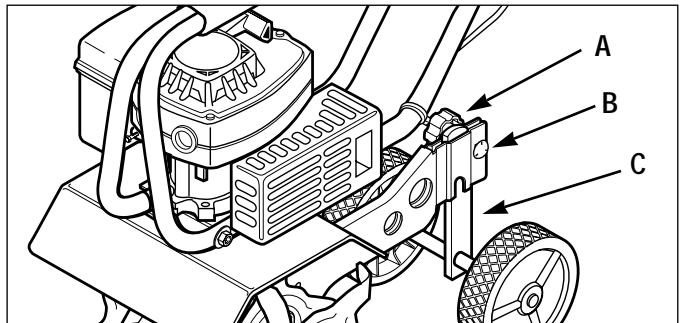

Figure 7
- a. Loosen tilling depth adjustment knob (A, Fig. 7).
- b. Move wheel bracket (B, Figure 7) up in relation to the height adjustment bar (C). Moving the bracket upward results in shallower tilling, which is recommended for initial use. **IMPORTANT:** Do not move the wheel bracket any higher than the top of the adjustment bar.